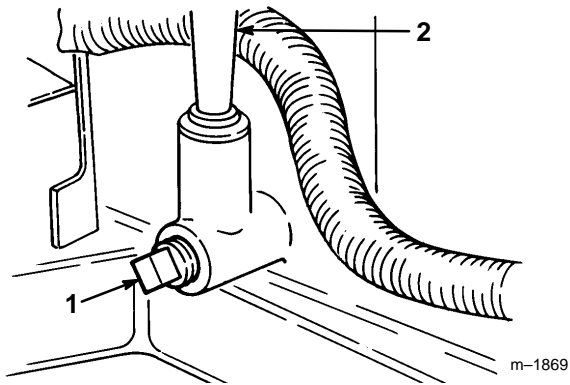

Figure 32
4. Place a pan below the oil dipstick/fill tube and remove the drain plug (Fig. 32).